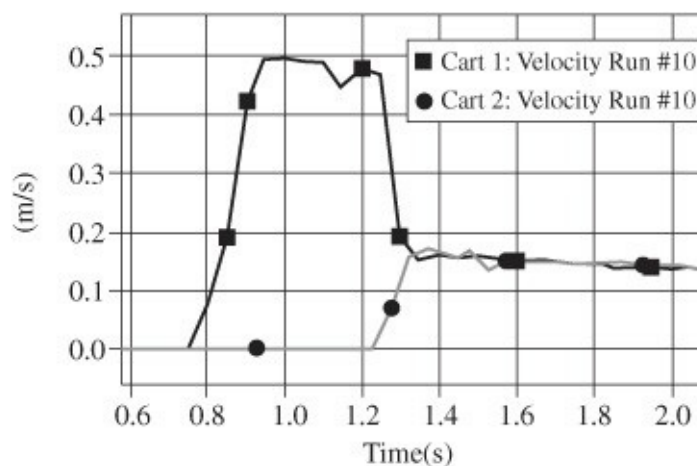

Figure 53-4 Motion sensor measurement of velocity versus time for an inelastic collision between a moving cart and a second moving cart.
1. If you have two motion sensors, you can repeat this with both carts initially in motion. You can get the velocity of each cart right before the carts collide and the velocity of both carts together after the collision. Both sensors will read a positive velocity before the collision as the distance from the sensor increases. After the collision, one sensor reads a positive velocity, while the other reads a negative velocity. Results are shown in Figure 53-4.